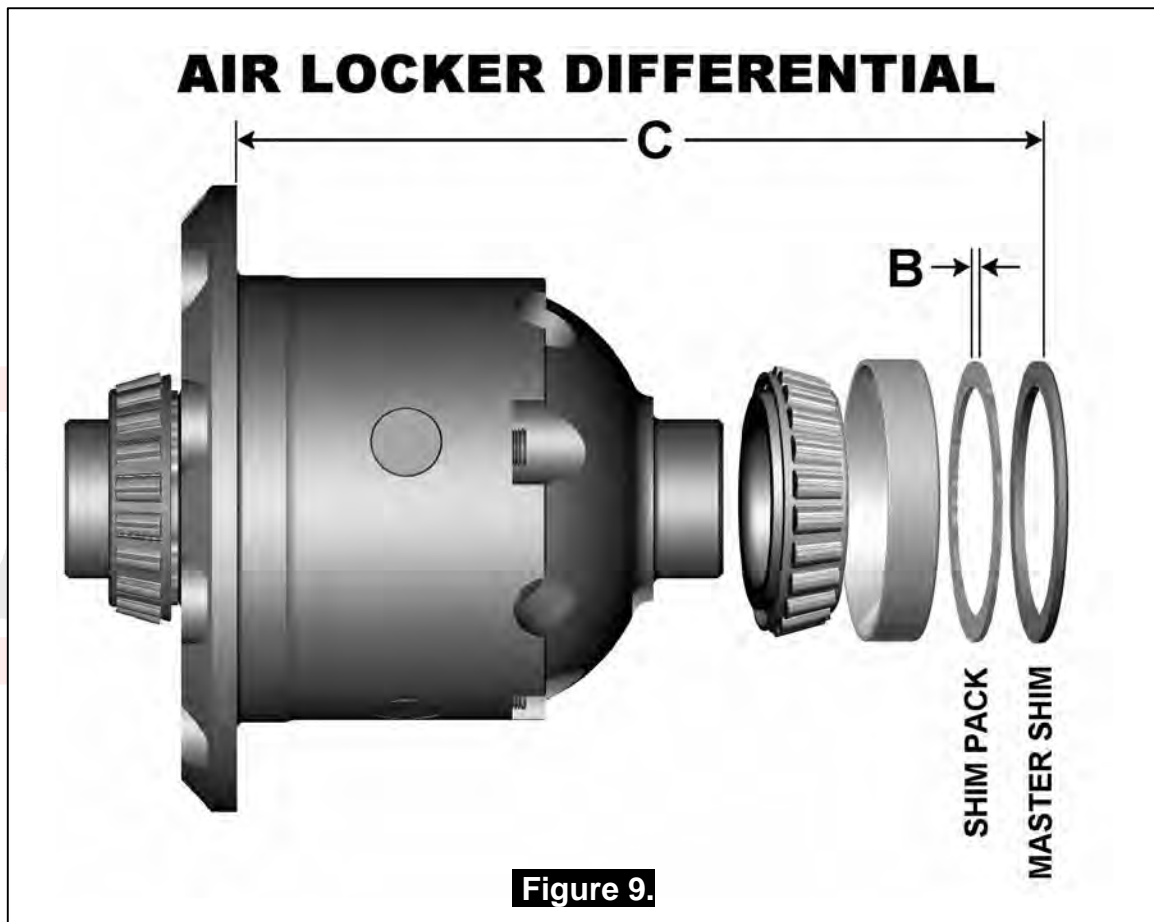

Figure 9.
- Assemble the new bearing cup and master shim (supplied with your *Air Locker* kit) onto the right-hand side of the *Air Locker* (as shown in Fig. 9.) and measure the total distance 'C'.